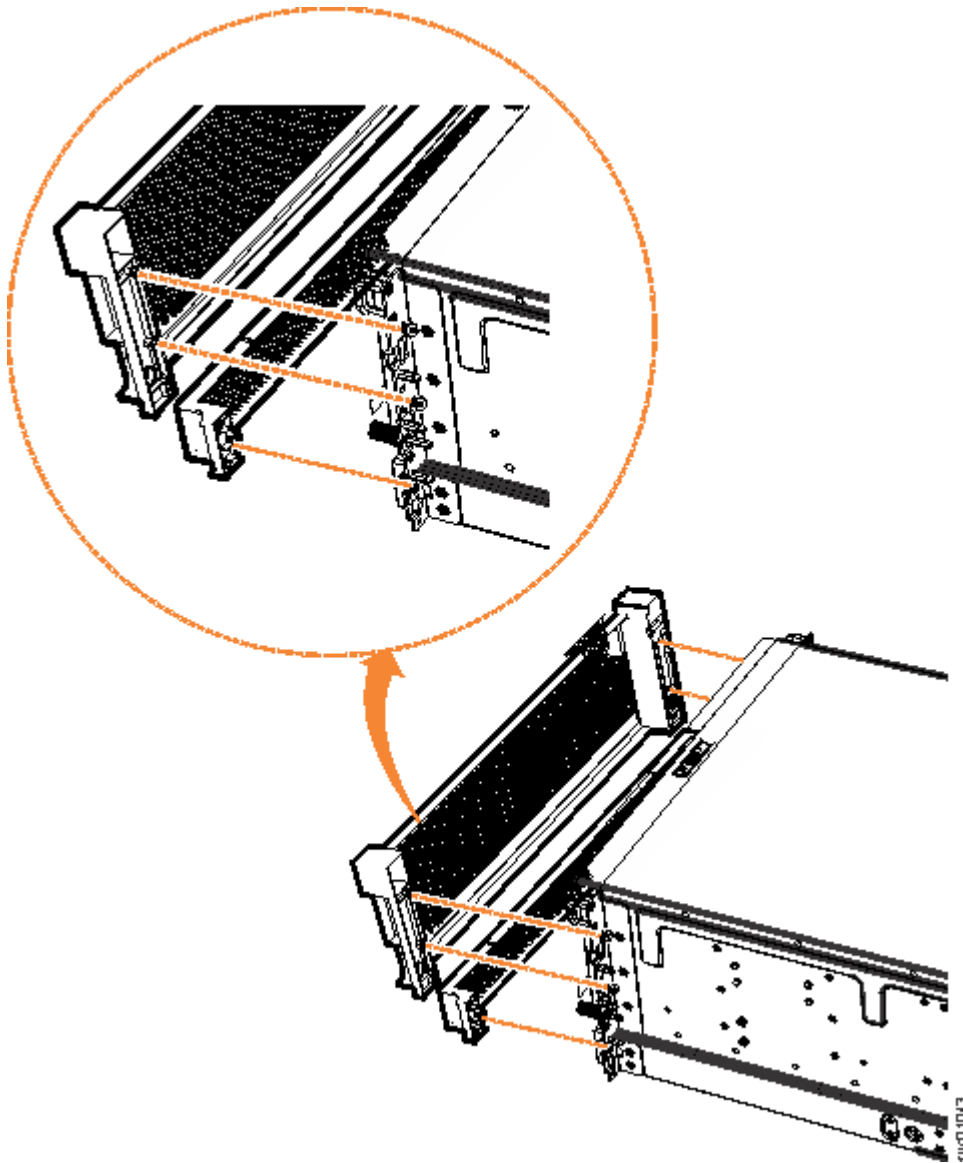

Figure 96. Remove fascia components from the expansion enclosure
2. Remove the front fascia by removing the two screws that attach the fascia to the flange on each side of the chassis, as shown in Figure 96 on page 78.
3. Gently pull on each side of the PSU fascia to remove it from the chassis, as shown in Figure 96 on page 78. The PSU fascia disengages from the slot and pin that connect it to each side of the chassis.